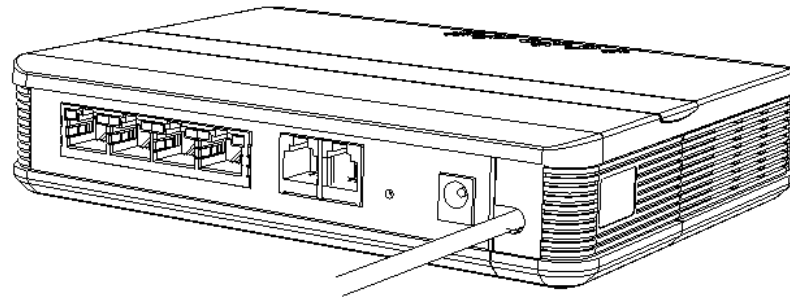

Figure 5 Connect to network: final view
5. Finally it looks like figure below (Figure 5).